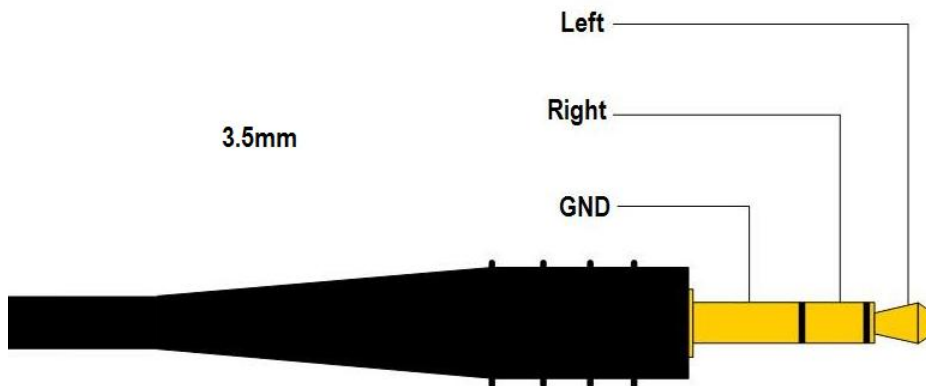

Figure 66. Audio In Plug
Figure 66 is the audio input jack required to connect to the BeagleBoard.
- 3) Using Figure 66, locate the positive (+) lead of the battery.